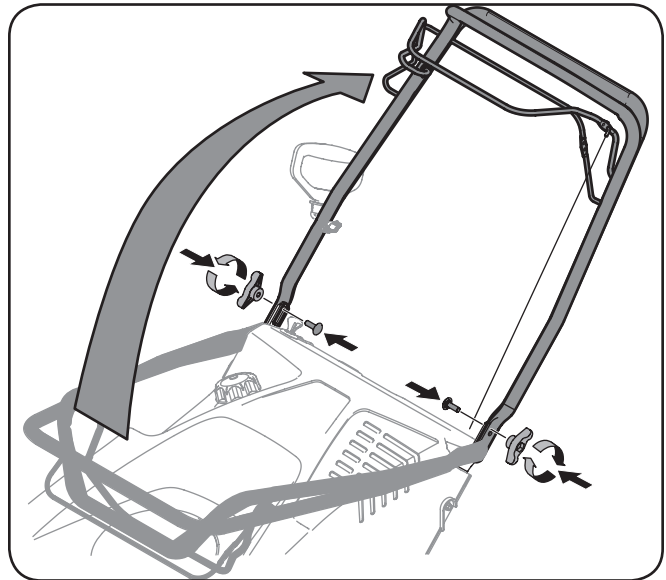

Figure 3-2
2. Pivot the upper handle into the operating position. Be sure not to pinch any of the cables in the process. See Figure 3-2.